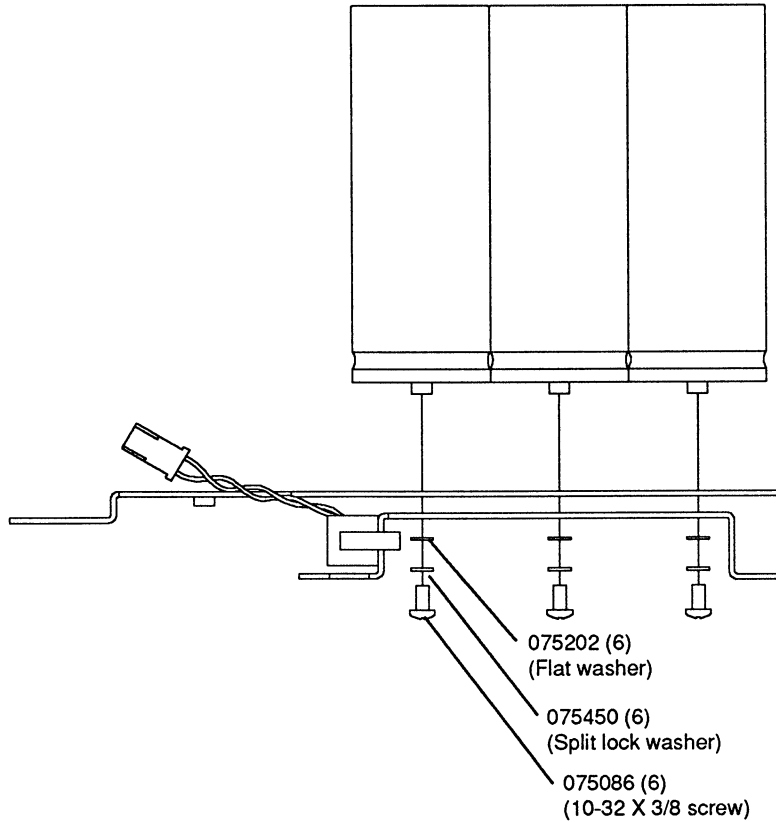
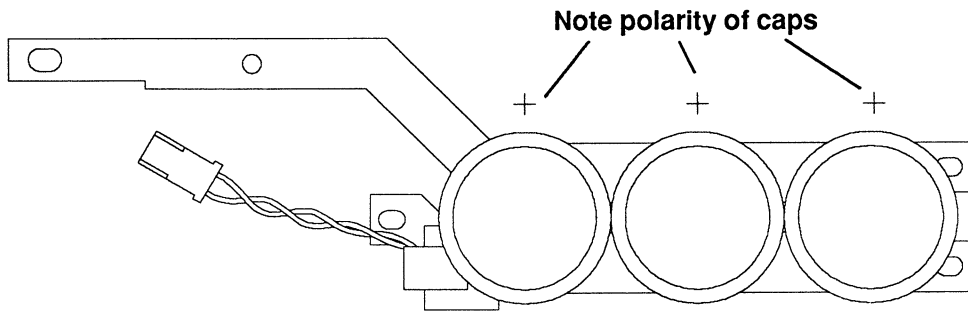

Figure 3 Capacitor Fastener Upgrade
Figure 4 Capacitor Polarity Orientation (Top view)
8. Install new hardware from kit as shown in Figure 3. **Be certain that capacitor polarity is correct when fastening to bus bars!** See Figure 4.